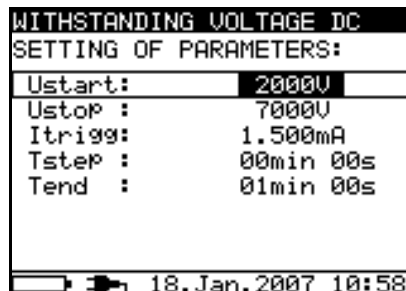

Fig. 45: Setting parameters
3. Press again the **SELECT** key to enter in the setup parameters section. The screen of Fig. 45 is shown by the meter